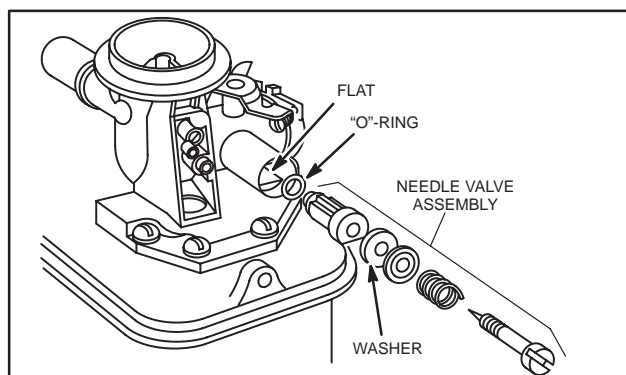

Fig. 227 – NEEDLE VALVE ASSEMBLY, PRESSED-IN-TYPE
**NOTE:** Some zinc carburetors use pressed-in needle valve assembly, Fig. 227. See next subject heading “To Remove Needle Valve Assembly – Pressed-In Type” for removal procedure.
4. Remove inner “O”-ring, Fig. 227.